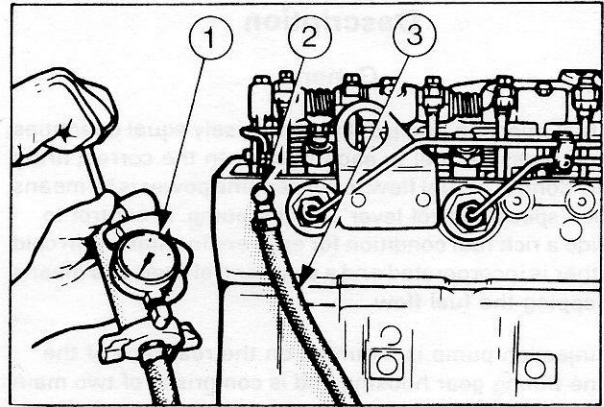

Fig. 15 - Pressure Testing the Leak-Off Rail
2. Remove the external leak-off line banjo connection at the rear of the cylinder head and install a single outlet banjo connection securely in its place (Fig. 15).